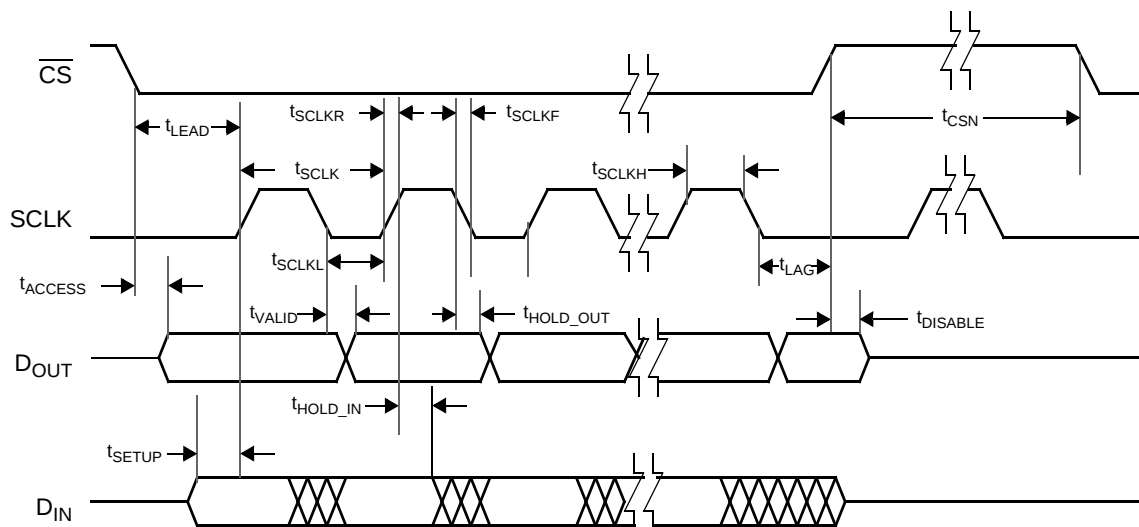

Figure 7. Serial Interface Timing
| 184 | Serial Interface Timing (See Figure 7, $C_{DOUT} \leq 80$ pF, $R_{DOUT} \geq 10$ k $\Omega$ )                            | $t_{SCLK}$             | 320  | —                 | —    | ns      | (9) |